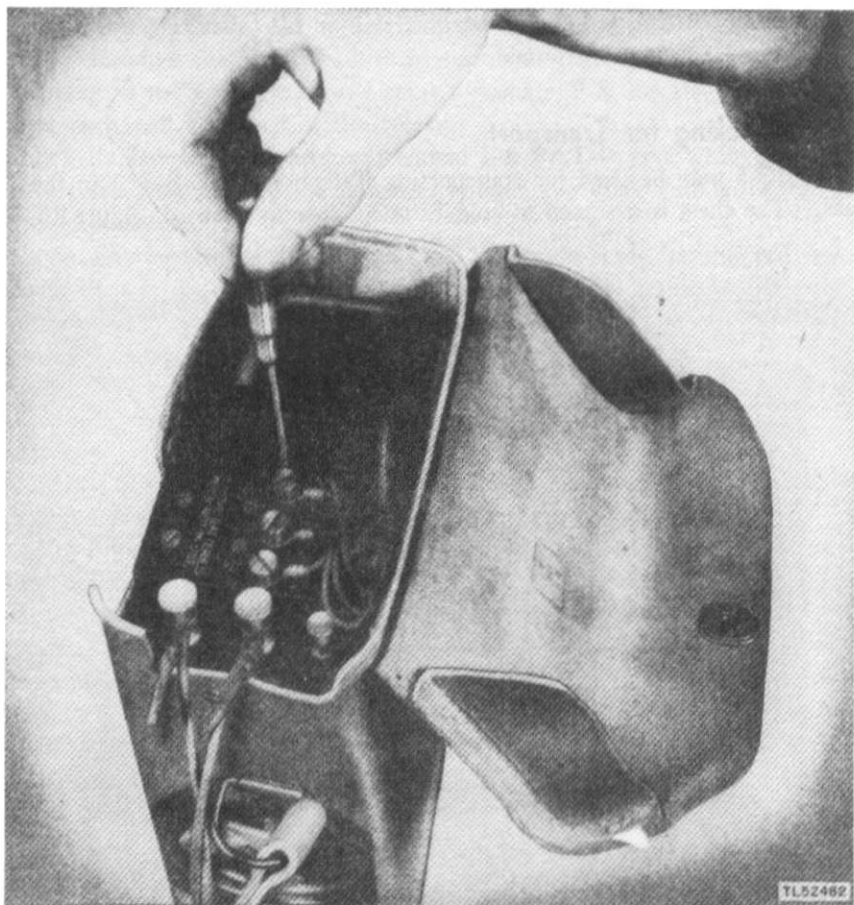

Figure 16. Adjustment of screw switch.
a. **LOCAL BATTERY.** With a screw driver turn the screw switch counterclockwise as indicated by the arrow pointing to LB until the screw comes to a stop. (See fig. 16.)